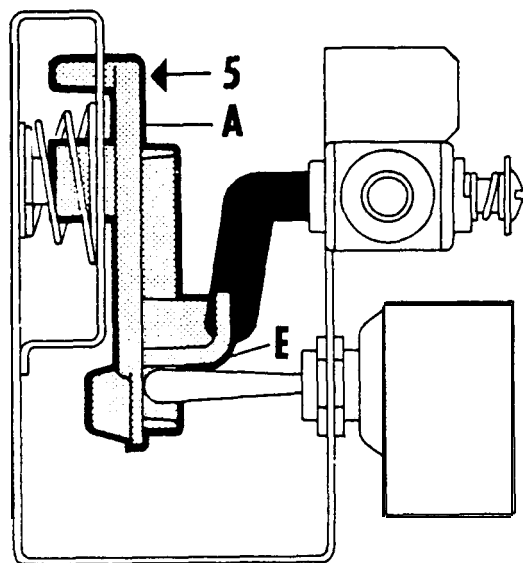

Fig. 16
3. Release the driving disc which is then pulled inwards by spring action, whereby the lever of the gas cock snaps into its slot "E" on the driving disc "A" (fig. 16).